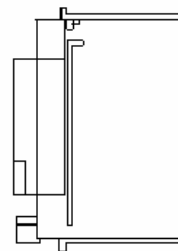

**Fig 2**
**Refer to fig 2**
**Refer to figs 2 & 3**